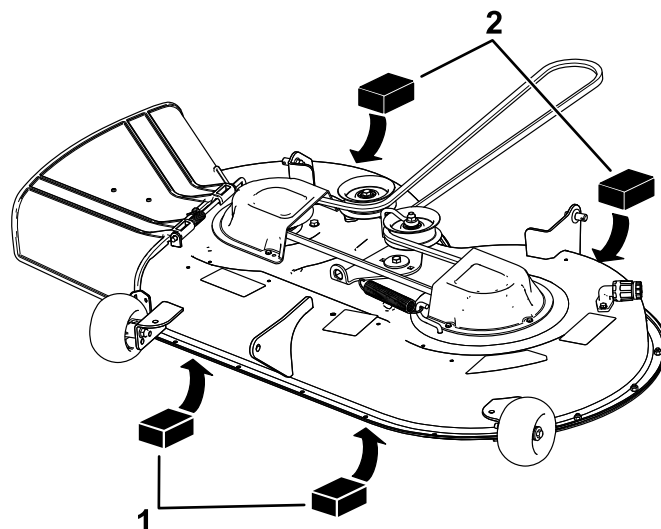

Figure 66
4. Place 2 blocks, each having a thickness of 6.6 cm (2-5/8 inches), under each side of the front edge of the deck but not under the anti-scalp roller brackets (Figure 66).
5. Place 2 blocks, each having a thickness of 7.3 cm (2-7/8 inches), under the rear edge of the cutting deck skirt, 1 on each side of the cutting deck (Figure 66).